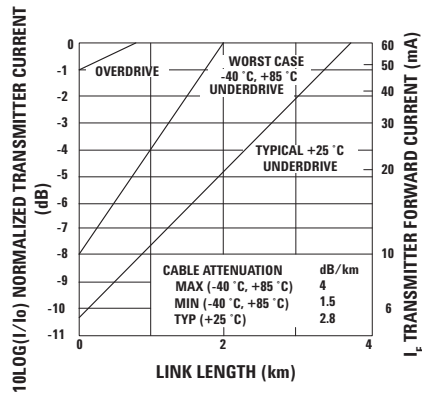

Figure 3. HFBR-1414/HFBR-2412 Link Design Limits with 62.5/125 μ m Cable.
Maximum distance required = 400 meters. From Figure 3 the drive current should be 15 mA. From the transmitter data $V_F = 1.5$ V (max.) at $I_F = 15$ mA as shown in Figure 9.
The curves in Figures 3, 4, and 5 are constructed assuming no inline splice or any additional system loss. Should the link consists of any in-line splices, these curves can still be used to calculate link limits provided they are shifted by the additional system loss expressed in dB. For example, Figure 3 indicates that with 48 mA of transmitter drive current, a 1.75 km link distance is achievable with 62.5/125 μ m fiber which has a maximum attenuation of 4 dB/km. With 2 dB of additional system loss, a 1.25 km link distance is still achievable.
2. Typical performance of circuits shown in Figure 1 and Figure 3 of AN-1038 (see applications support section).
2. Typical performance of circuits shown in Figure 1 and Figure 3 of AN-1065 (see applications support section)